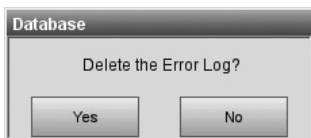

Fig. 6-26 Delete Error Log
5. Confirm your choice by pressing  **Yes** in the **<Delete the Error Log?>** screen (Fig. 6-26).